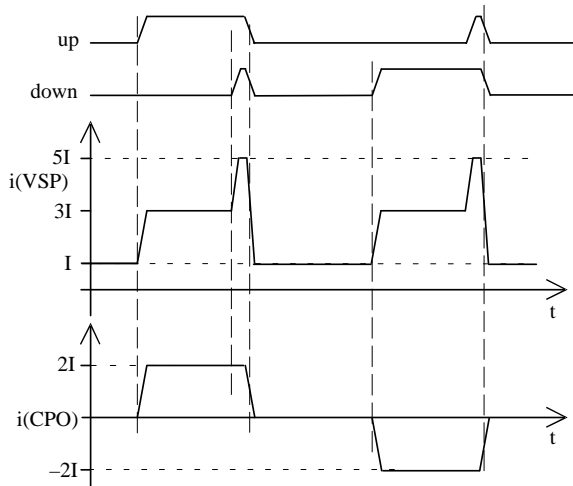
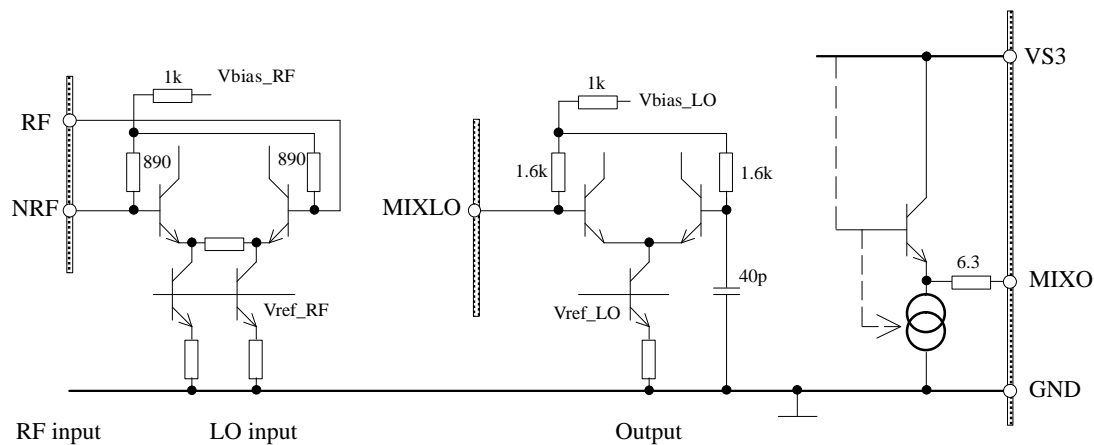

Figure 3. Supply current of the charge pump =  $f(t)$
Figure 6. Mixer
6) See figures 6 and 14.
Due to the pulsed operation of the charge pump, the current into the charge-pump supply pin VSP is not constant. Depending on  $I$  (see figure 6) and the phase difference at the phase detector inputs, the current  $i(VSP)$  over time varies. Basically, the total current is the sum of the quiescent current, the charge-/discharge current, and – after each phase comparison cycle – a current spike (see figure 3).